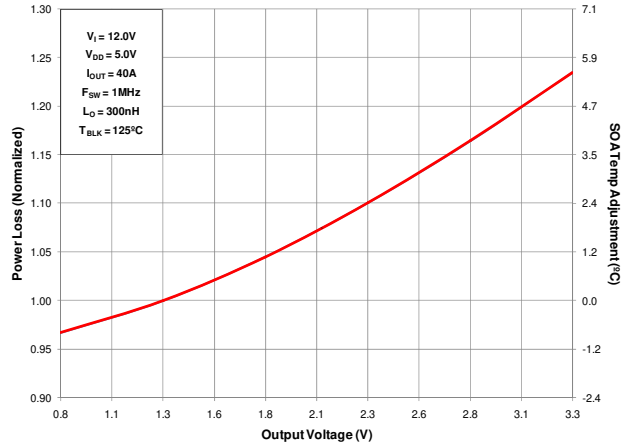

Figure 4 Normalized Power Loss vs. Output Voltage
| (Figure 4) | Normalized power loss for output voltage \approx 1.23 |
- (Figure 4) SOA temperature adjustment for output voltage $\approx 5.5^{\circ}\text{C}$